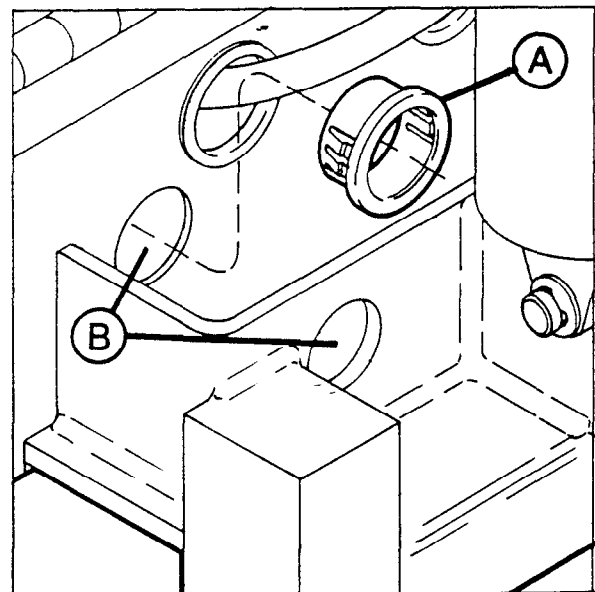

FIGURE 2
18. and re-install the (4) #10 screws as shown on Page 5 of the 111 Service Manual.
19. Referring to Figure 2, insert Item A, snap bushing, into inner hose access hole as shown.
21. Referring to Figure 2, insert the drainage hose from the rear of the seat assembly through the hose access holes, Item B, until the hose is completely through the seat assembly.